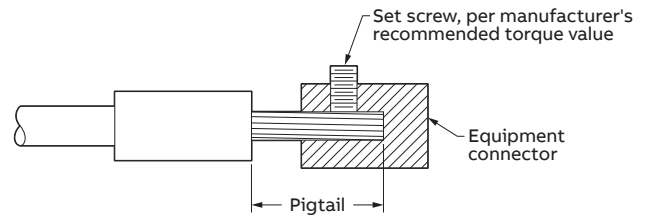

Figure 7
- Insert copper pigtail fully into mechanical connector body and tighten set screw to equipment manufacturer's recommended torque (Figure 7).